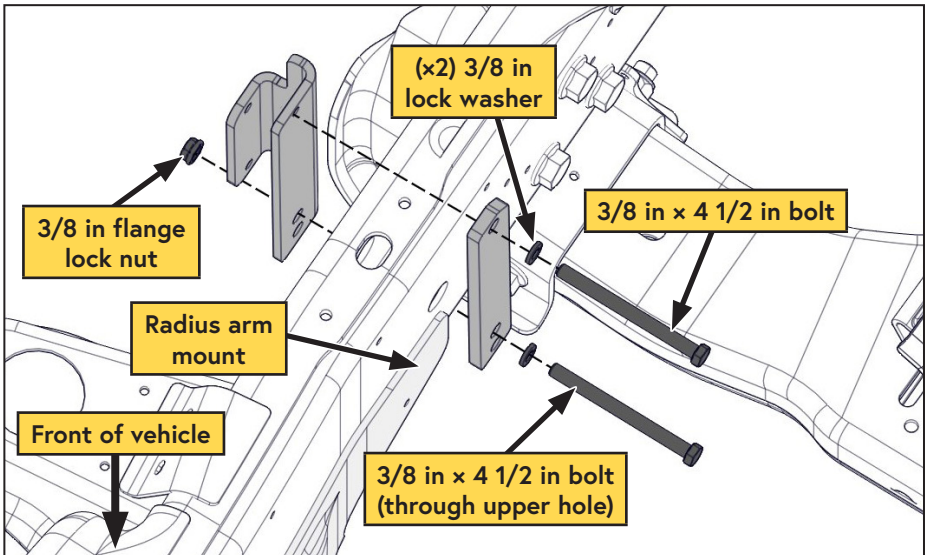

Figure 47 — Installing the AOST
- Using the (x2) 3/8 in × 4 1/2 in bolts, install the front tank mount and backing strap (the lower fastener is installed between the radius arm and the frame). Leave the bolts finger tight to allow for minor adjustments (Figure 47).